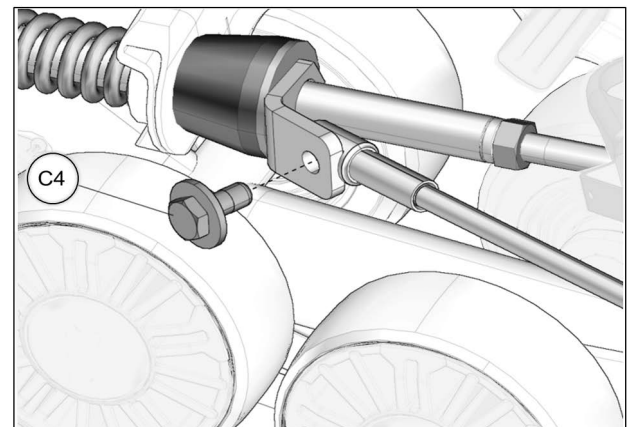

Fig. 38
22. Reverse steering wheel a little to be able to bolt support plate and cable together. Tighten provided bolt (C4) to 35 Nm [24 lb•ft]. See Fig. 38. Repeat steps on right side.